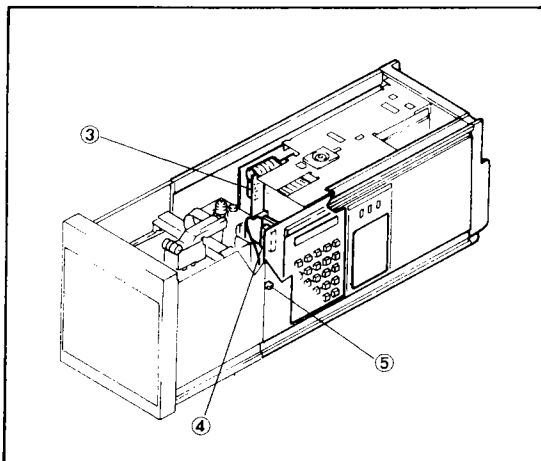
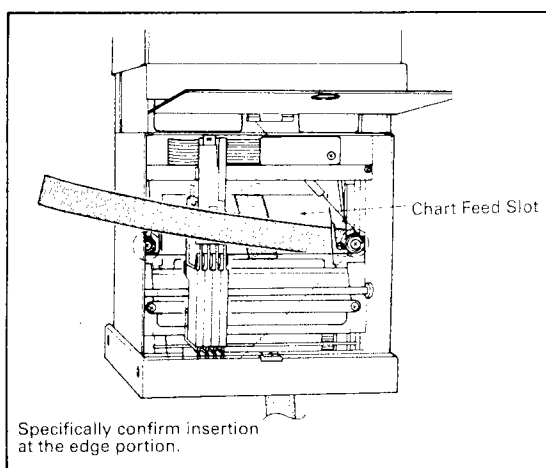

Figure 10-2. Connector Removal.
Figure 10-16. Inserting a Mylar Sheet.
- (3) Disconnect the female multipin connectors (number 3 and 4) (see Figure 10-2).
- (4) Remove two screws (number 5) on both side panels (see Figure 10-2).
- (9) Insert the mylar sheet into the chart feed slot to ensure that the sheet can be moved to the right and left and front chart outlet (see Figure 10-16).
- (10) Install the chart drive unit in the SRHD controller part, and secure the two bottom screws (number 6).
- (11) Install and tighten the two screws (number 5) on both side panels (see Figure 10-2).